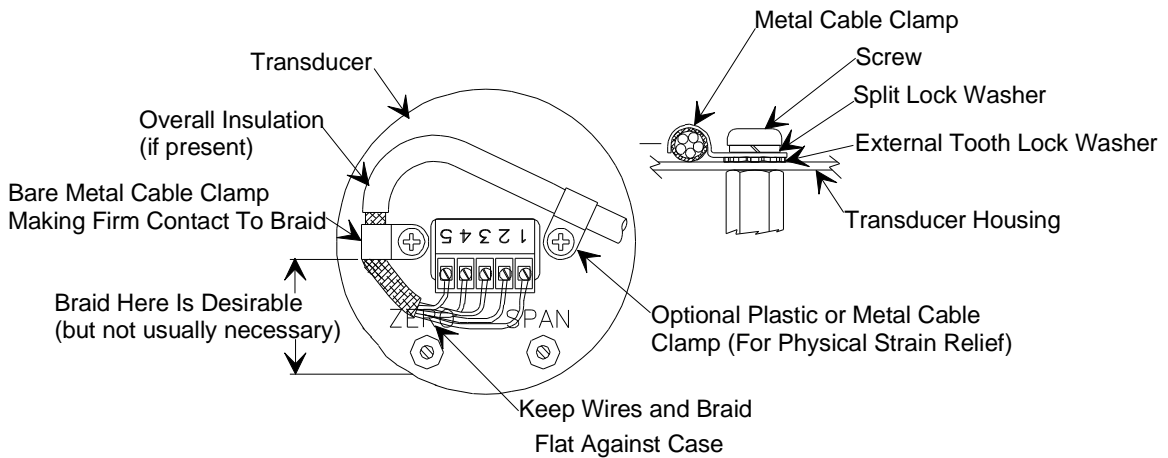
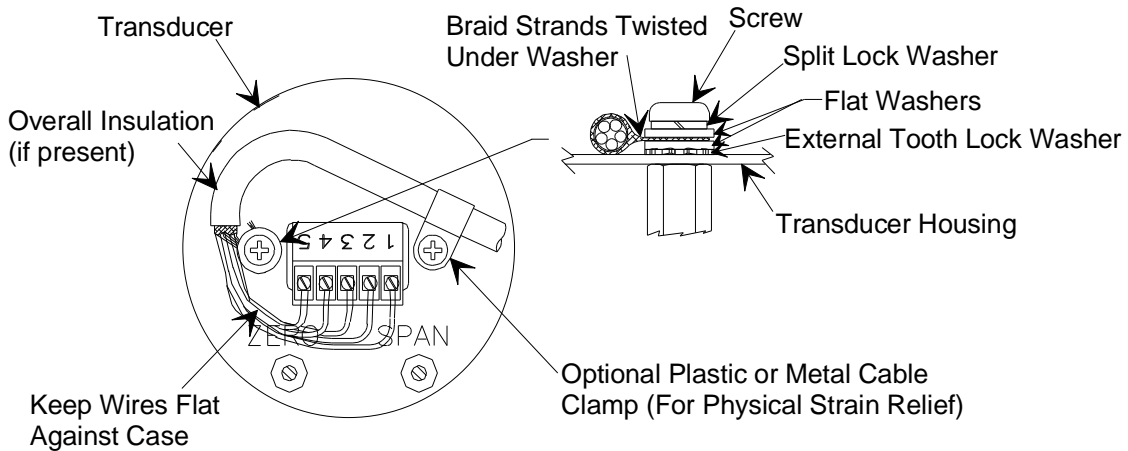

Figure 2: How To Connect the Cable to a Terminal Block (Example 1)
Figure 3: How To Connect the Cable to a Terminal Block (Example 2)
4. For shielded cables with flying leads at one or both ends; it is important at each such end, to ground the shield *before* the wires exit. Make this ground with absolute minimum length. Refer to Figures 2 and 3, page 55. (A ¼ inch piece of #22 wire may be undesirably long since it has approximately 5 nH of inductance, equivalent to 31 ohms at 1000 MHz). After picking up the braid's ground, keep wires and braid flat against the case. With very few exceptions, grounded metal covers are not required over terminal strips. If one is required, it will be stated in the Declaration of Conformity or in the instruction manual.
The cable to the terminal block connector must be firmly attached to the top of the transducer, in order to comply with CE Mark requirements. Figure 2 shows the preferred method to connect the cable; using a metal cable clamp to affix the cable to the transducer. Figure 3 shows an alternate method; wrapping the braided shield under the screw. Both examples show the cable securely clamped to the transducer.
Check the transducer zero prior to the initial operation and then periodically as required. The zero can be set (or reset) by adjusting the zero potentiometer located on the top cover of the transducer or, on the front panel of an MKS Power Supply/Readout, if you are using one. Refer to Figure **Error! Bookmark not defined.**, page 45, for the location of the zero potentiometer on a low pressure 722C transducer; Figure 3, page 46, for a high pressure 722C transducer.